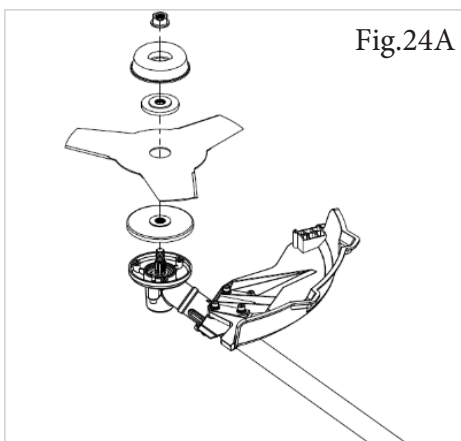

Fig.24A
a) Remove the lower pressing plate, blade, upper pressing plate, protective cover and nut from the head.(Fig.24A)